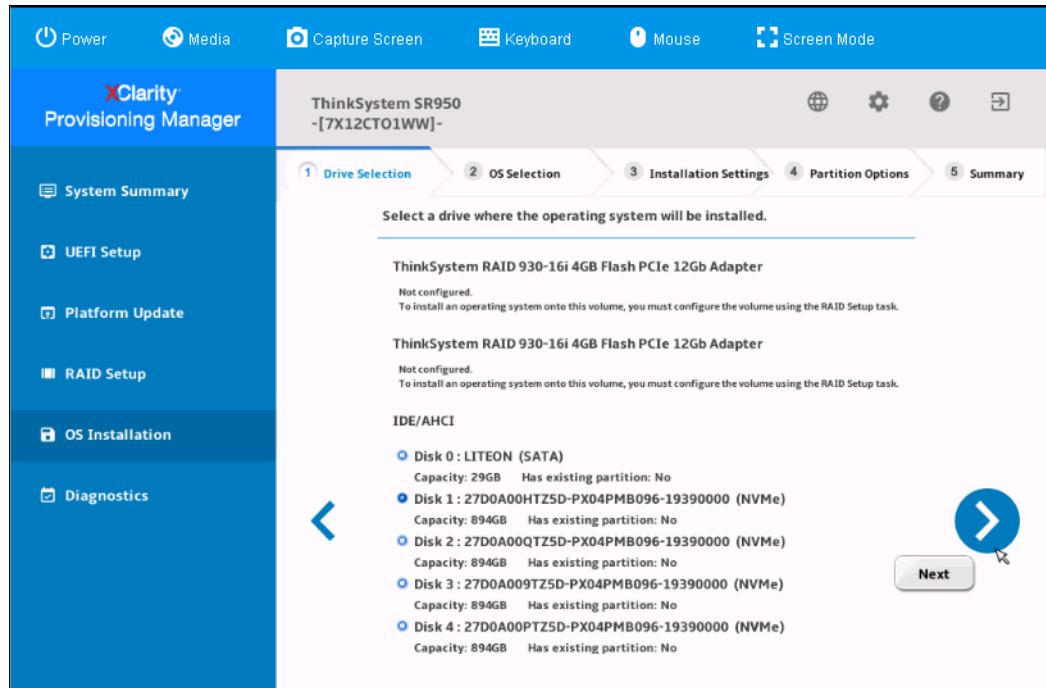

Figure 6-15 Drive selection screen
6. Select the drive where the OS will be installed and booted from. In this example, the OS is being installed on an NVMe adapter as shown in Figure 6-15 on page 193.